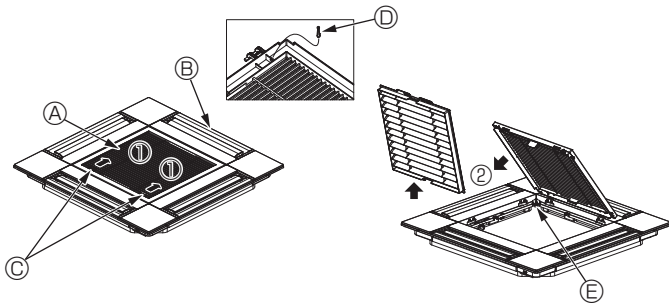
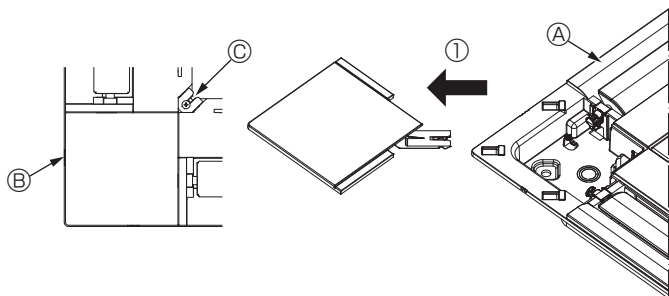

Fig. 5-3
Fig. 5-4
5.2.1. Removing the intake grille (Fig. 5-3)
- Slide the levers in the direction indicated by the arrow ① to open the intake grille.
- With the intake grille in the "open" position, remove the hinge of the intake grille from the grille as indicated by the arrow ②.
5.2.2. Removing the corner panel (Fig. 5-4)
- Remove the screw from the corner of the corner panel. Slide the corner panel as indicated by the arrow ① to remove the corner panel.